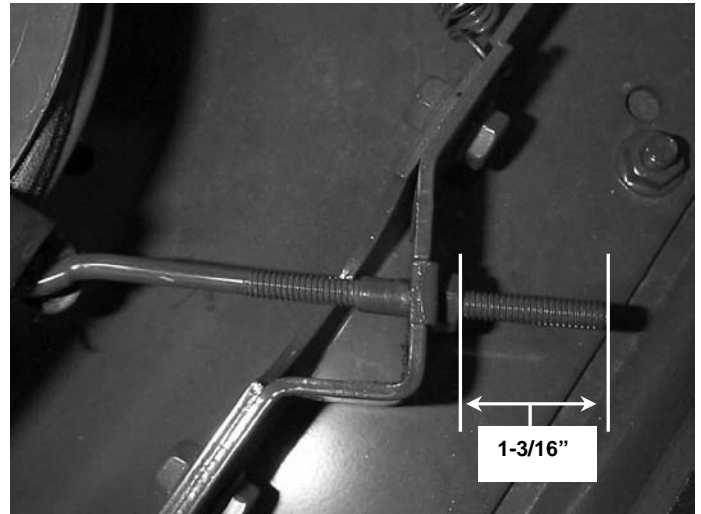

FIGURE 4.1
1. Blade brake adjustment is made by turning the adjustment nut on the threaded brake rod. The brake is initially set with 1-3/16" of thread exposed beyond the nut. See Figure 4.1. Verify this setting before attempting any adjustments. To tighten the brake (stop blade rotation quicker) turn the adjustment nut clockwise – ONE TURN ONLY.